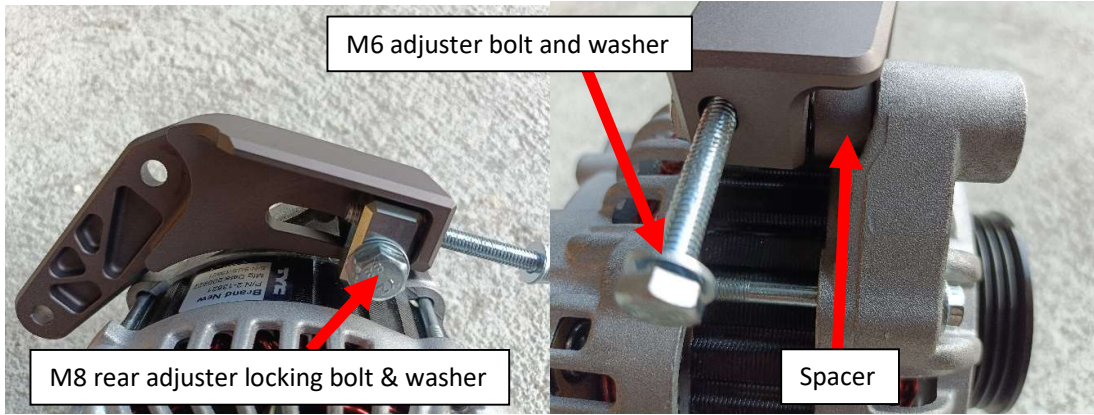

Figure 4 - Top mounting bracket pre-assembly
7. Pre-assemble the top billet mounting bracket components but do not fully tighten (figure 4).